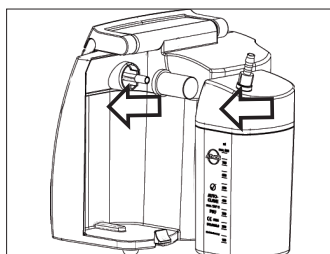

Fig 8.
- For removal, pull the DDS collection jar horizontally outside; for insert it again, shift it horizontally onto the bacterial filter (Fig 8.).